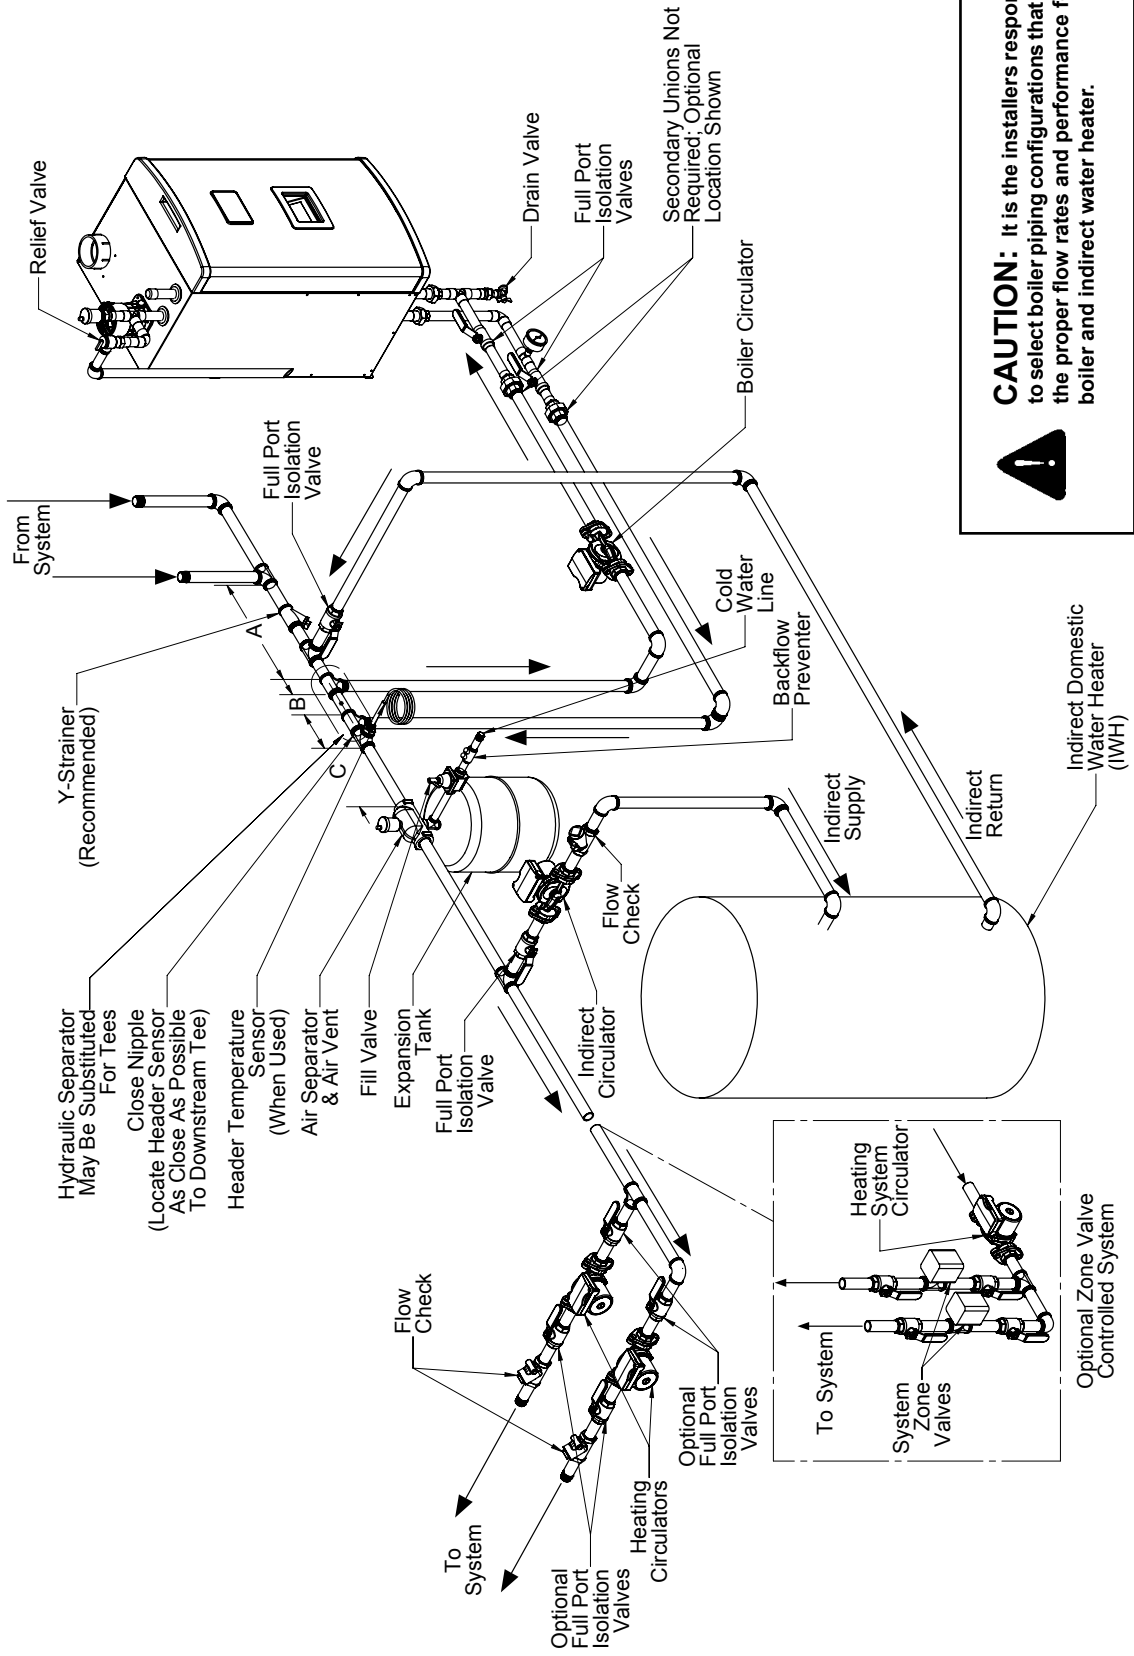

**Figure 9.7b: Piping Method #1 - Near Boiler Piping - Heating Plus Supply Piped Indirect Water Heater HX Inlet Bottom Connection; HX Outlet Bottom Connection**
This method can be used in heat-only applications as shown in Figure 9.7a or 9.8a or with an indirect water heater as shown in Figure 9.7b, 9.7c, 9.8b, 9.8c. In this system, the flow rate through the boiler (“secondary loop”) is completely independent of the flow rate through the system (“primary loop”). Use the following guidelines to ensure that the boiler will have the required flow shown in Table 9.3 regardless of the flow in the heating system.
- 3) Indirect Water Heater Loop Piping – If an indirect water heater is used, install it as shown in Figure 9.7b, 9.7c, 9.8b, 9.8c. Refer to the indirect water heater installation manual for the proper sizing the indirect water heater loop pump and piping.